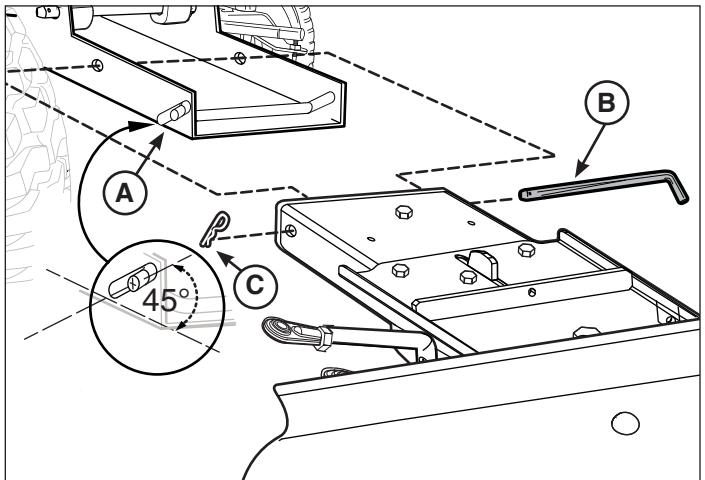

Figure 10
*NOTE: Make sure that the bell crank (**A**, Figure 10) is rotated to a 45° angle before installing the snow blade assembly as shown in inset.*